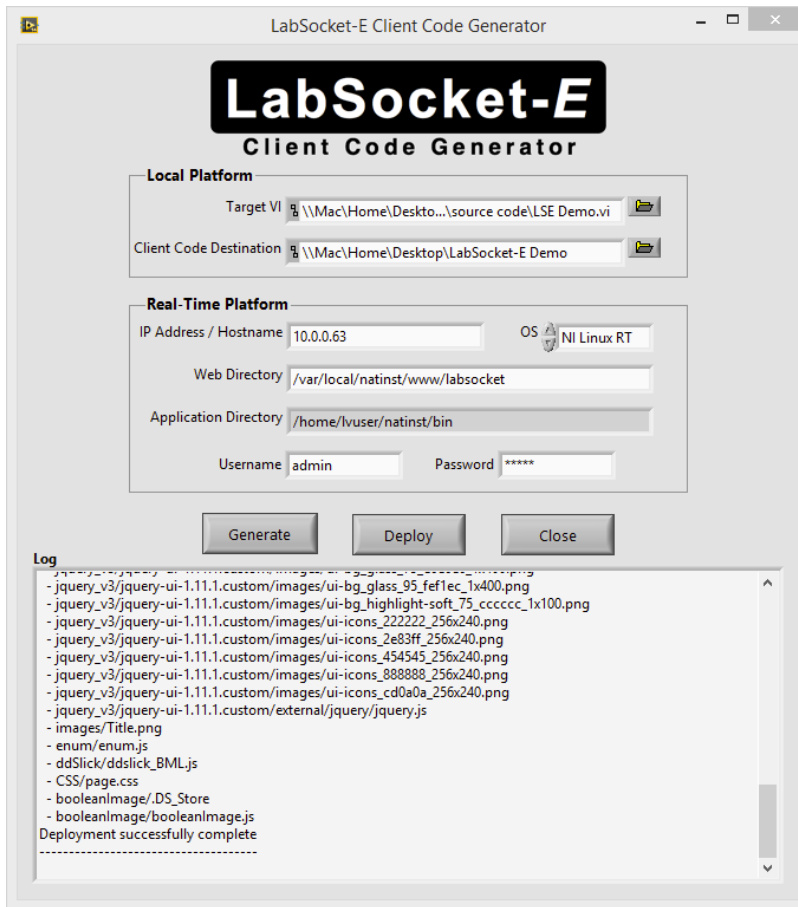

Figure 6.6. Client Code Generator window showing typical Log window display on initial deployment to an RT platform
1. Press the “Deploy” button on the Client Code Generator to transfer the browser client code to the RT platform. The list of files transferred and other information about the deployment is shown in the Log window (Figures 6.6 and 6.7). A description of the files transferred to the RT platform is included in the Note below.